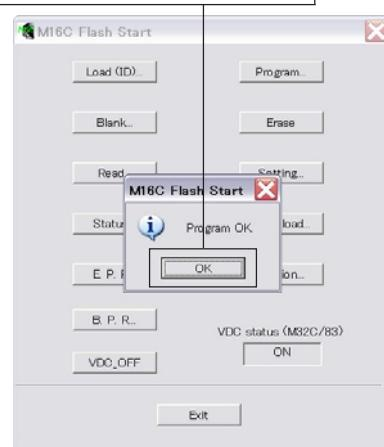

Fig. 5
11. When the program transmission is completed, the screen appears as shown below. (Fig. 5)
Click [OK] to end the procedure. (Fig. 5)
れます。(Fig. 5)
[OK] をクリックして完了します。(Fig. 5)